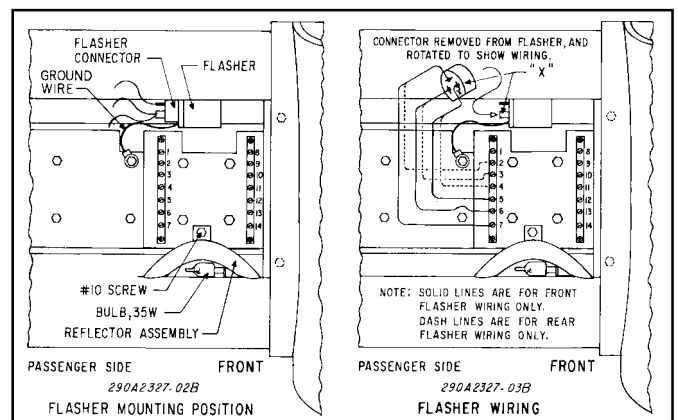

Figure 2.
4. Locate the proper position for mounting the supplied flasher (see figure 2). Remove the backing from one side of the adhesive pad (supplied) and affix the pad to the flasher. Remove the backing from the other side of the adhesive pad. Affix the flasher and pad in the desired position. To ensure a good electrical ground, attach the ground wire from the flasher to the extrusion using the #10 screw and lockwasher used to mount the reflector (see figure 2).
5. Connect the flasher connector to the mating terminals on the flasher (figure 2).
8. Connect the flasher connector lead marked “X” (on flasher) to terminal block position #5 adjacent to the incoming black with white stripe lead (figure 2). Connect the two remaining leads from the flasher connector to terminal block positions #6 and #7 adjacent to the white with brown stripe leads (figure 2).
4. Locate the proper position for mounting the supplied flasher (figure 2). Remove the backing from one side of the adhesive pad (supplied) and affix the pad to the flasher. Remove the backing from the other side of the adhesive pad. Affix the flasher and pad in the desired position.
8. Connect the flasher connector lead marked “X” (on flasher) to terminal block position #4 adjacent to the incoming blue lead (figure 2). Connect the two remaining leads from the flasher connector to terminal block positions #2 and #3 adjacent to the white leads (figure 2).